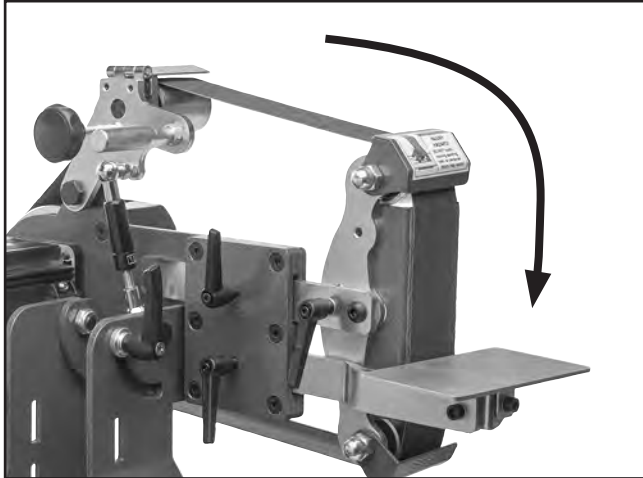

Figure 31. Direction of belt during operation.
4. Standing in front of machine, push grinding belt multiple times along platen, so it moves in direction of operation (see **Figure 31**), then watch how belt tracks on wheels.